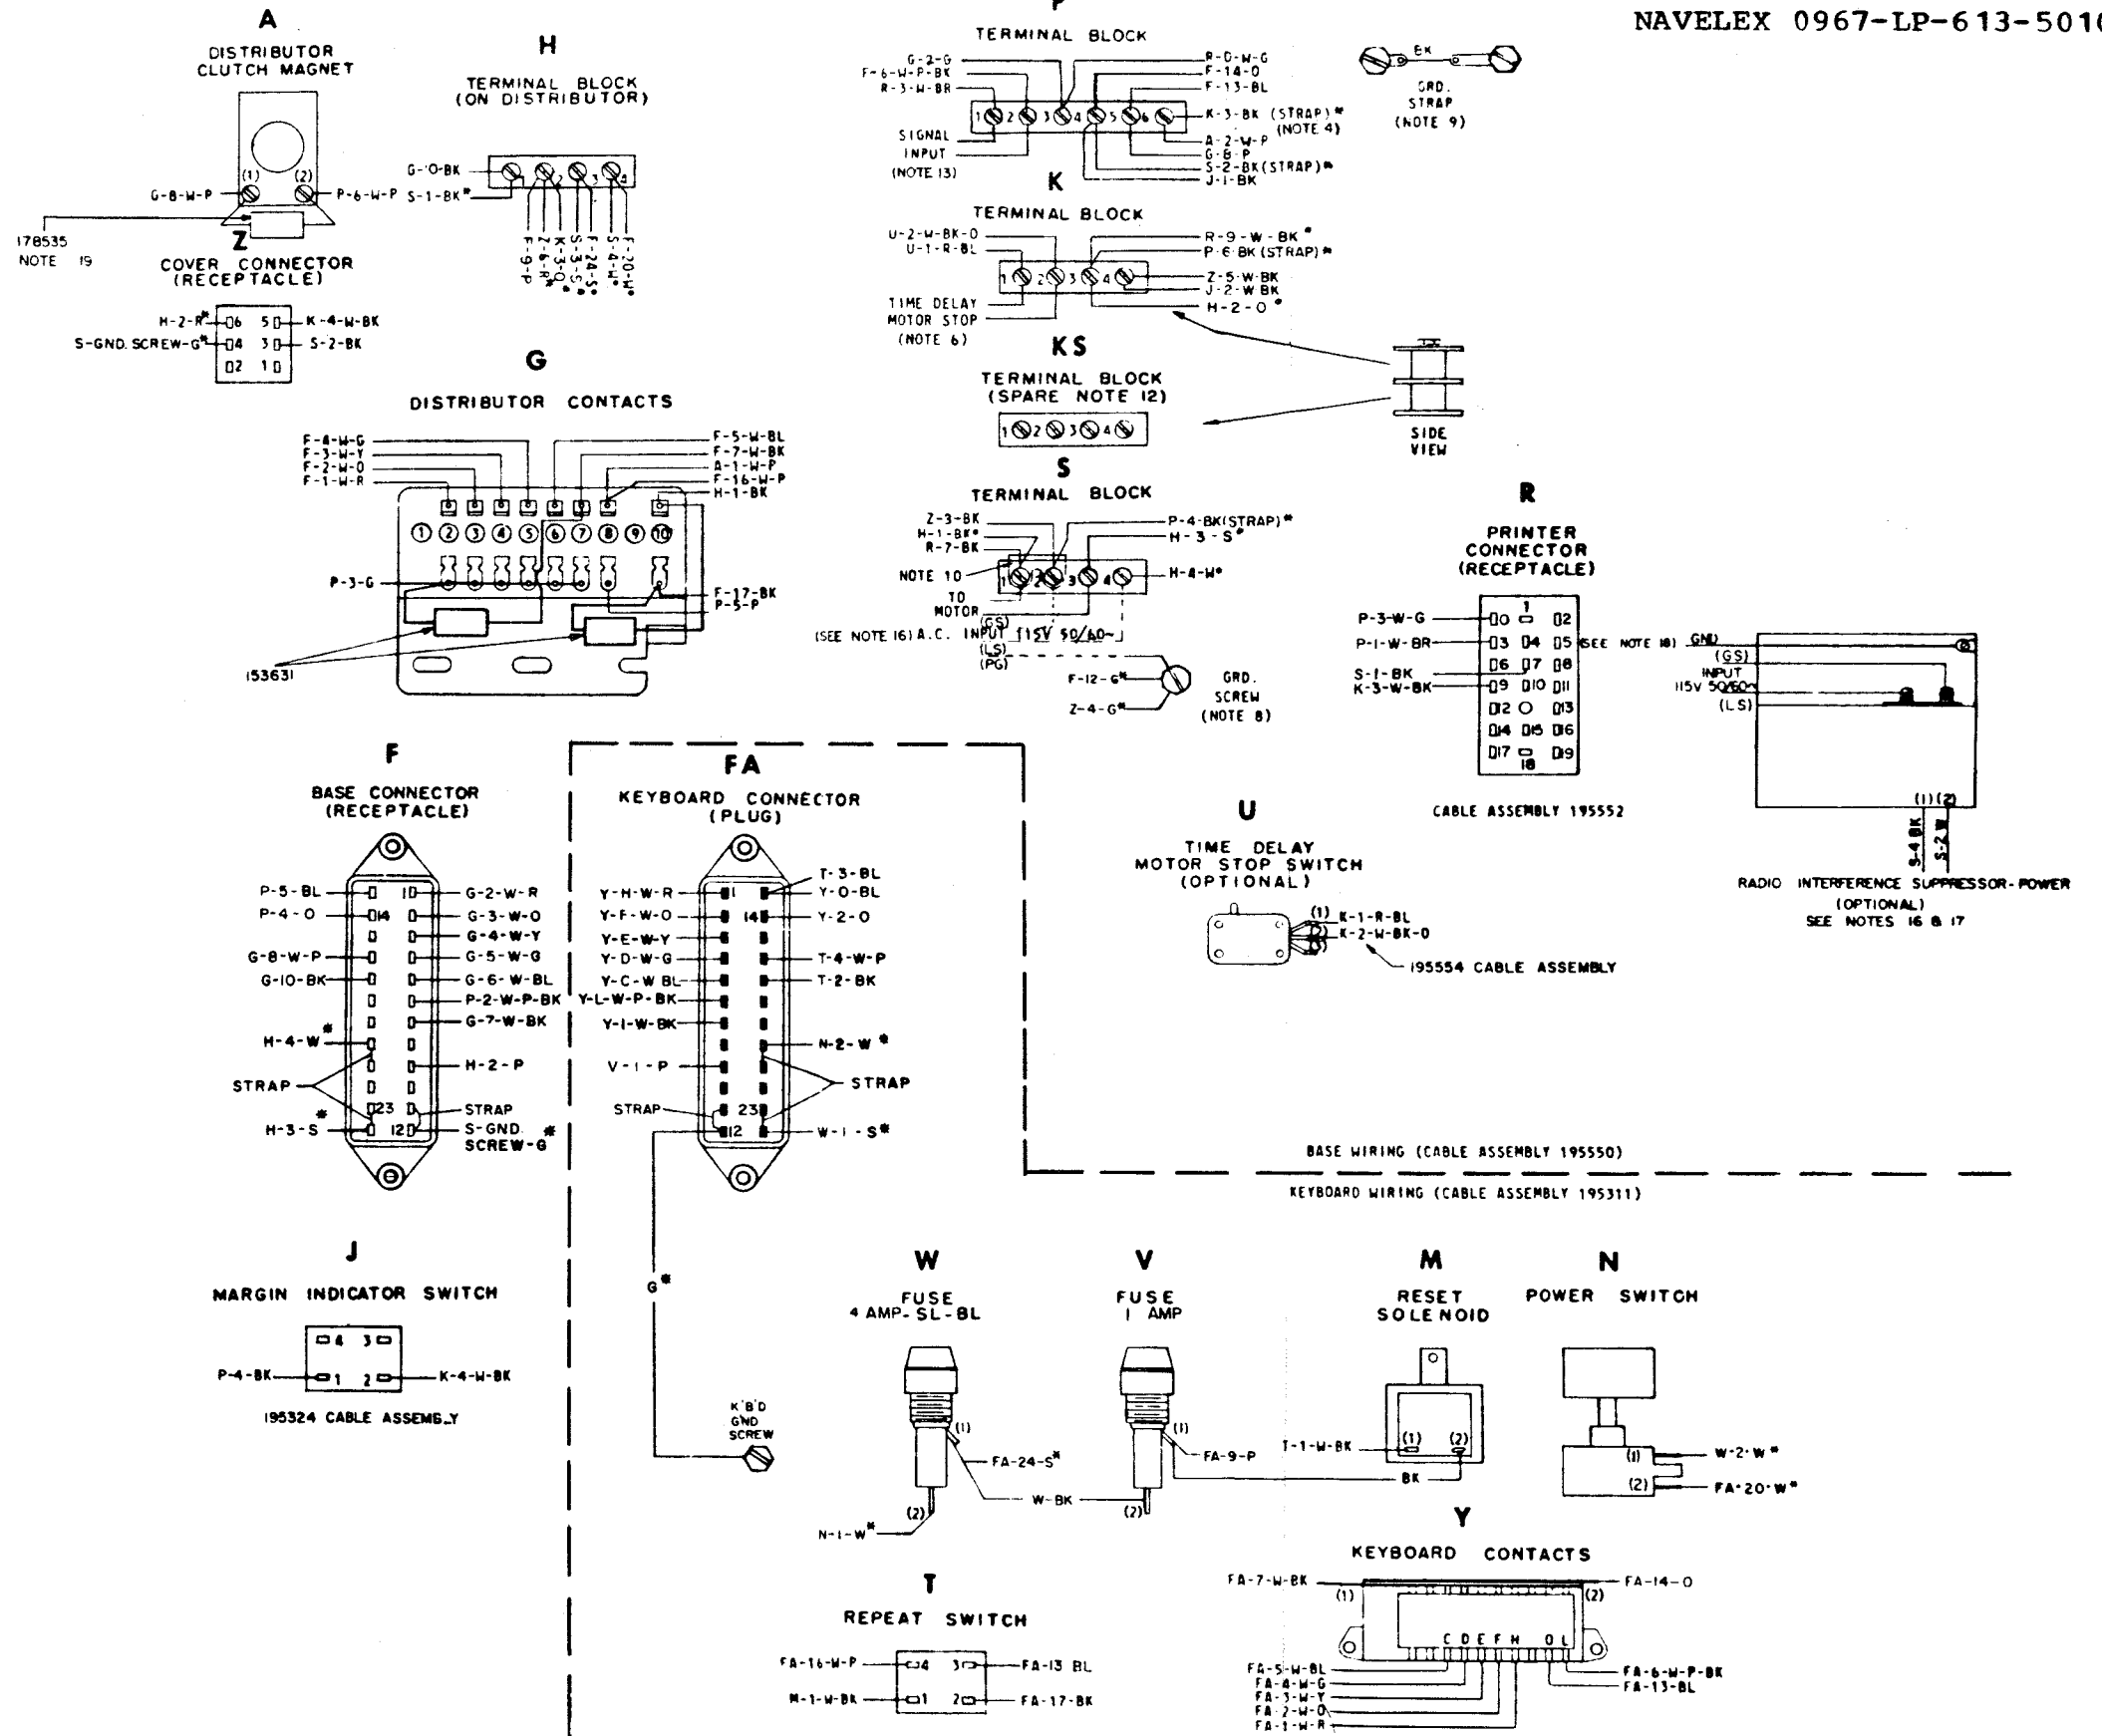

Figure 5-4. Wiring Diagram; Model 28 CPP KSR Keyboard Base LLK 2
3.	ASSOCIATED WIRING DIAGRAM 5976W9 ACTUAL WIRING DIAGRAM LLK1 & LLK2 (FIGURE 5-4)